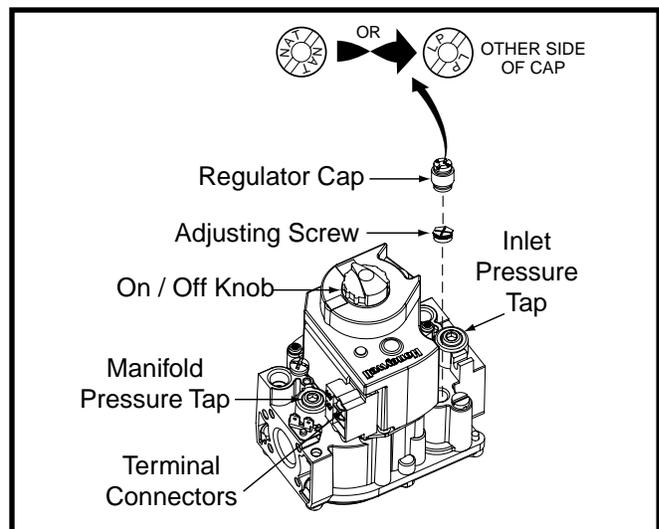

Figure 19. Gas Valve
Converting single stage valves to LP/Propane requires the replacement of the burner orifices and flipping the regulator cap to the side marked LP. The end facing up should now read LP. See Figure 19.
5. Turn the gas valve ON/OFF knob to the OFF position. See Figure 19.
2. Using a 3/16" Allen wrench, remove the plug from the inlet pressure tap (INLET side of gas valve). See Figure 19 (page 20).
4. Turn the gas valve ON/OFF knob to the ON position. See Figure 19 (page 20).
3. Using a 3/16" Allen wrench, remove the manifold pressure tap plug located on the outlet side of the gas valve. See Figure 19 (page 20).
1. **Single stage gas valve:** Remove the regulator cap from the top of the gas valve. See Figure 19 (page 20).